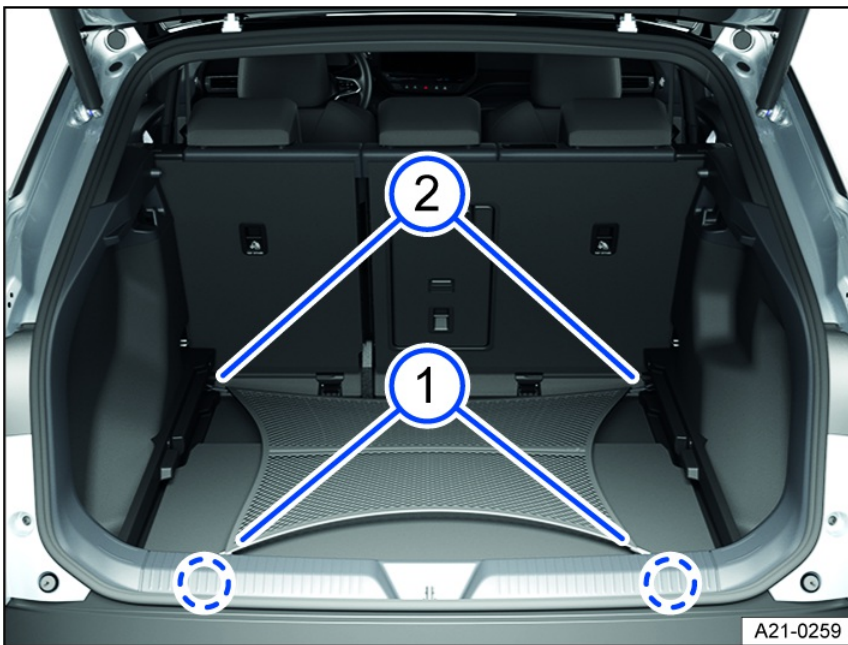

Fig. 120 In the luggage compartment: Level hanging luggage net (general example).
1. Attach the luggage net hooks to the tie-downs *fig. 120* ② ⇒ ⚠.
2. Attach the hooks on the other end of the luggage net to the tie-downs under the loading edge *fig. 120* ①.